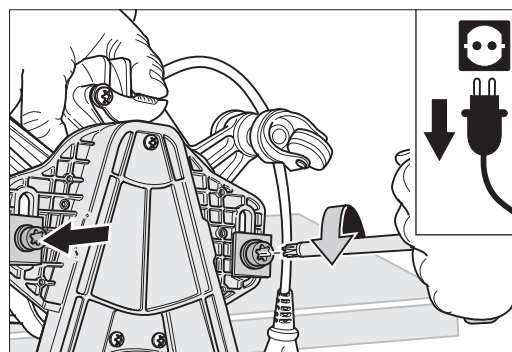

Fig. 27 Undo the two screws with which the attachment is fastened.
- 3 Use the universal spanner to undo the two screws with which the attachment is fastened on the fan housing (Fig. 27).